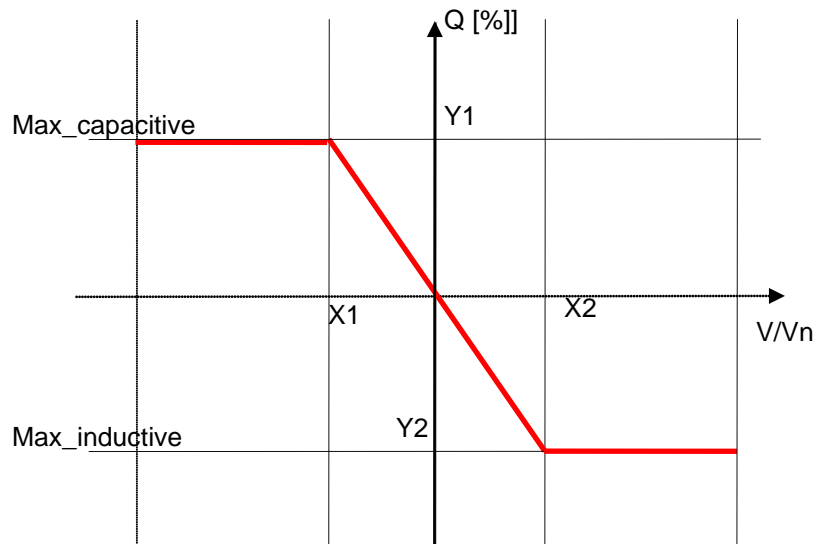

Figure 2: Q(U) characteristic
Active	Only if P300 =7, Reactive Power defined by Q(U) characteristic (Figure 2).
Function	Coordinate "X1" in Figure 2. If V/Vn < X1, the reactive power is defined by "Y1", otherwise it is defined by the loop line.
Function	Coordinate "Y1" in Figure 2. It defines the maximum value of Q when V/Vn < X1.
Function	Coordinate "X2" in Figure 2. If $V/V_n > X2$ , the reactive power is defined by "Y2", otherwise it is defined by the loop line.
Function	Coordinate "Y2" in Figure 2. It defines the maximum value of Q when $V/V_n > X2$ .
Function	Point of the characteristic Q(U) where the reactive power is null. The reactive power is null between V1s and V1t I, see Figure 2.